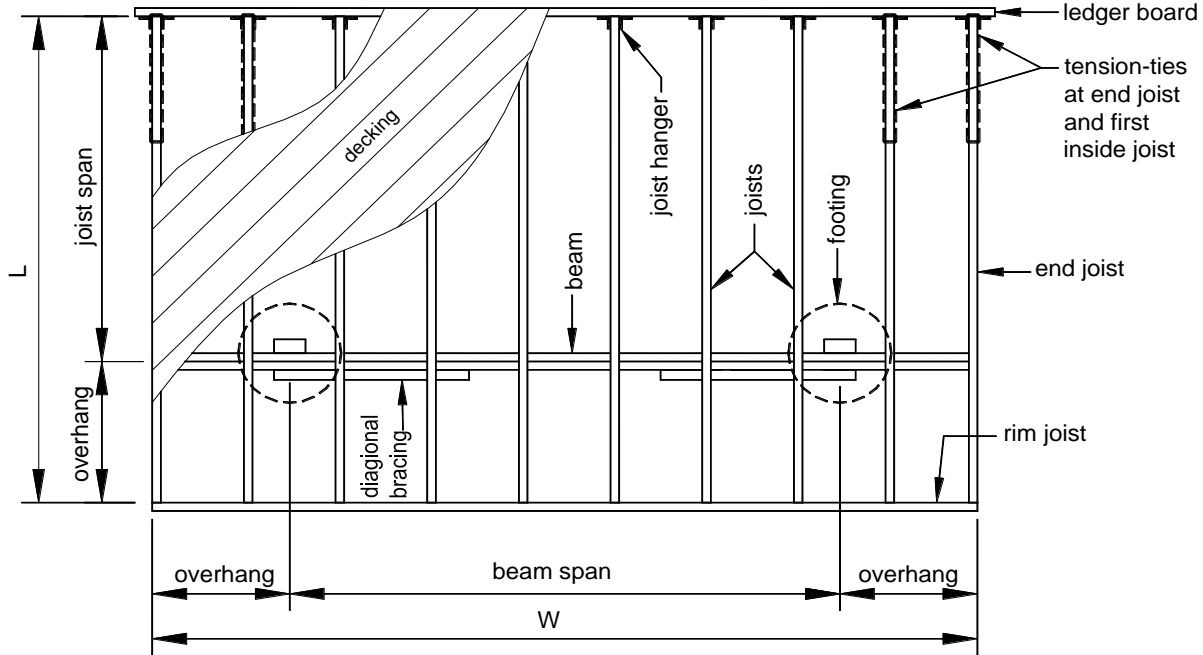

FIGURE 41: TYPICAL DECK FRAMING PLAN
- For decks attached to the existing house, the ratio of the overall deck length to width must be no more than 2 to 1. This requirement can also be verified by ensuring $L \div W \leq 2$ as shown in FIGURE 41. (This does not apply to free-standing decks or attached decks using lateral support Method 1.)